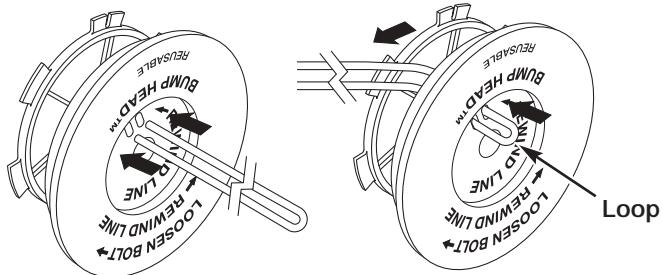

Fig. 31
6. Take approximately 18 feet (6 m) of new trimming line, loop it into two equal lengths. Insert each end of the line through one of the two holes in the inner reel (Fig. 31). Pull the line through the inner reel so that the loop is as small as possible.